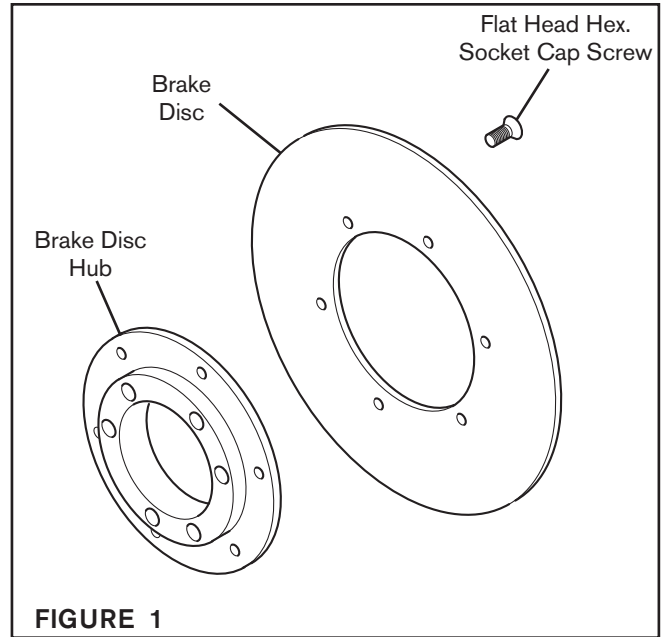

FIGURE 1
1. Apply a drop of Loctite® 242 to the threads of the six Flat Head Hex. Socket Cap Screws provided with the Brake Disc and secure the Brake Disc to the Brake Disc Hub or to a customer supplied hub (See Figure 1).
2. Alternately and evenly tighten the six Flat Head Hex. Socket Cap Screws to the recommended torque (See Figure 1 and Table 1).